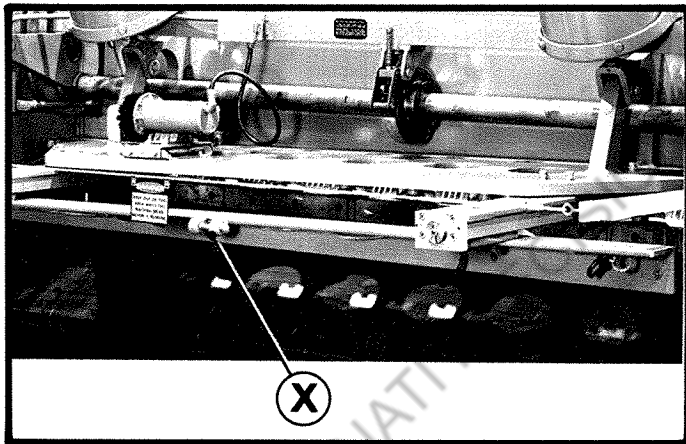

FIGURE 86
8. The back gage angle is set straight or hollow by adjusting bolt(s) "X", Figure 86: